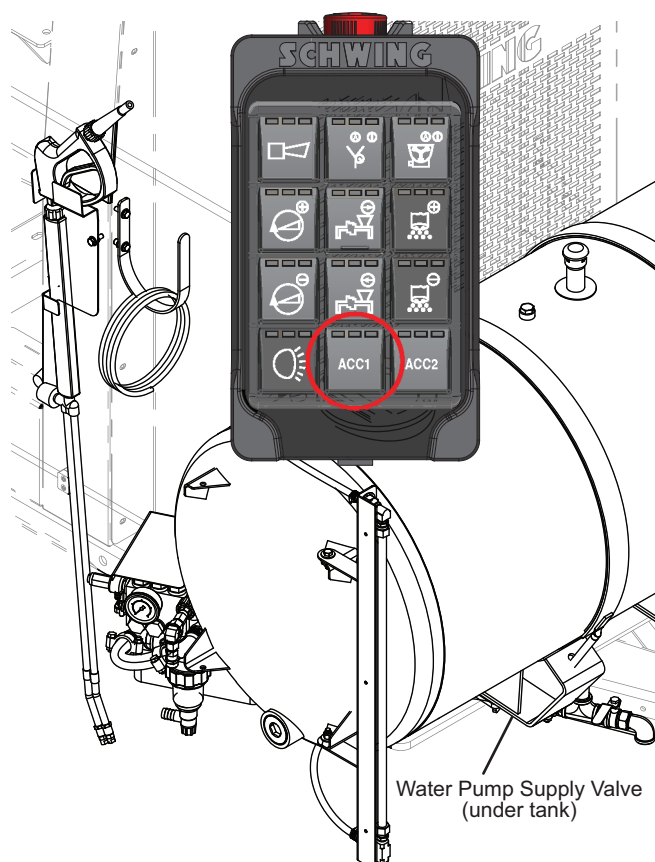

Figure 12
Opening the water pump supply valve (Figure 12) provides water to the high-pressure pump from the water tank. **Water MUST be supplied to the high-pressure pump BEFORE starting.**
Pressing the ACC1 button on the radio or pendant remote (Figure 12) switches a directional valve, sending oil to the hydraulic motor of the high-pressure pump. The high pressure pump will start immediately.
- Open the suction line of the high-pressure pump to the water tank by opening the water pump supply valve, located under the water tank (Figure 12).
- Before restarting the HPCS, fill water tank, close the filter drain, and open the water pump supply valve (Figure 12).
- Close the water pump supply valve (Figure 12).